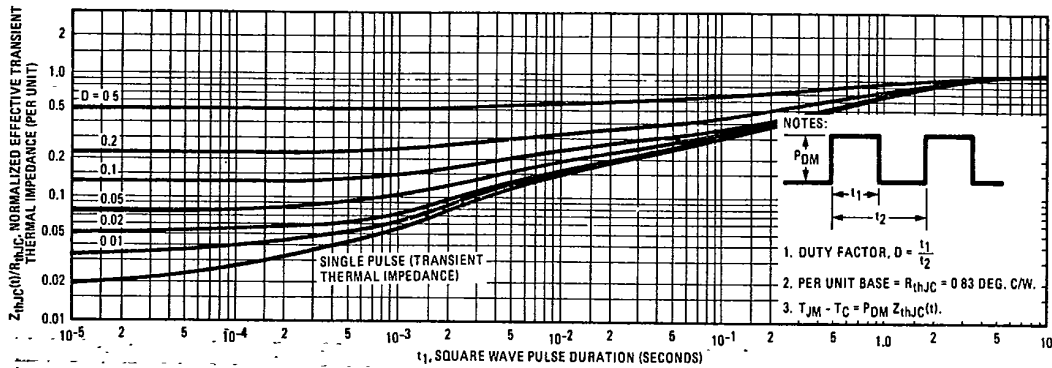

Fig. 5 - Maximum Effective Transient Thermal Impedance, Junction-to-Case Vs. Pulse Duration
① T_J = 25°C to 150°C.
② Pulse Test: Pulse width < 300μs, Duty Cycle < 2%.
③ Repetitive Rating: Pulse width limited by max. junction temperature. See Transient Thermal Impedance Curve (Fig. 5).